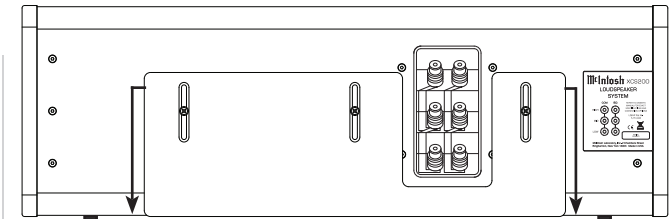

Figure 3
4. Reposition the Stabilizer Bar even with the previously applied rubber bumpers on the side edge of the XCS200 enclosure. Refer to figure 3.